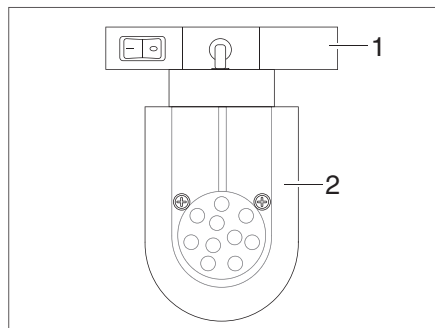

Fig. 74 LED spot light (example)
- Grasp the holder (Fig. 74,1) and turn it by 90°.
- Remove the LED spotlight (Fig. 74,2) from the rail system.
- Insert the LED spotlight (Fig. 74,2) into the rail system at the desired position and turn 90°.